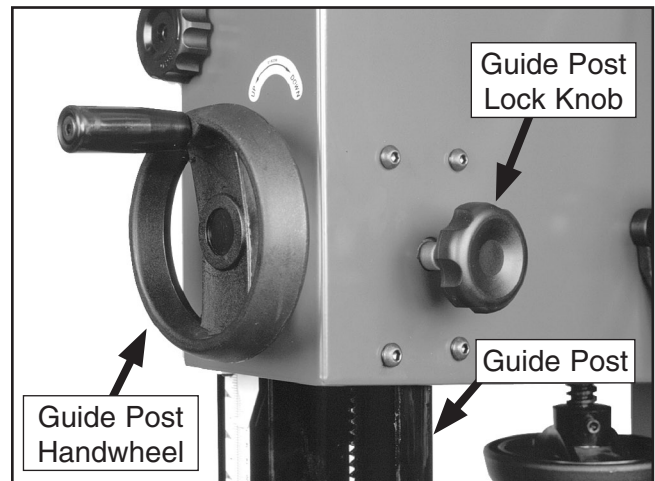

Figure 33. Guide post controls.
The guide post, shown in **Figure 33**, connects the upper blade guide assembly to the bandsaw. The guidepost allows the blade guide assembly to move up or down via a rack and pinion. In order to cut accurately, the blade guide assembly must be no more than $\frac{1}{4}$ " from the top of the workpiece at all times—this positioning provides the best support for the blade.
2. Loosen the guide post lock knob shown in **Figure 33**.